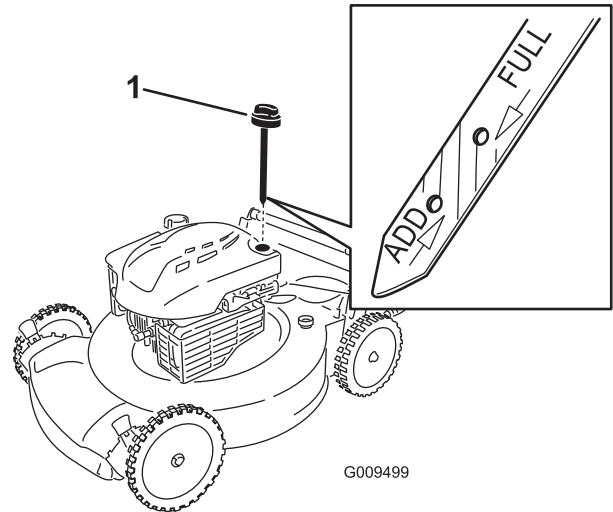

Figure 15
2. Remove the dipstick (Figure 15).
5. Read the oil level on the dipstick (Figure 15).
- If the oil level is below the Add mark on the dipstick, slowly pour a small amount of oil into the oil-fill tube, wait 3 minutes, and repeat steps 3 through 5 until the oil level is at the Full mark on the dipstick (Figure 15).